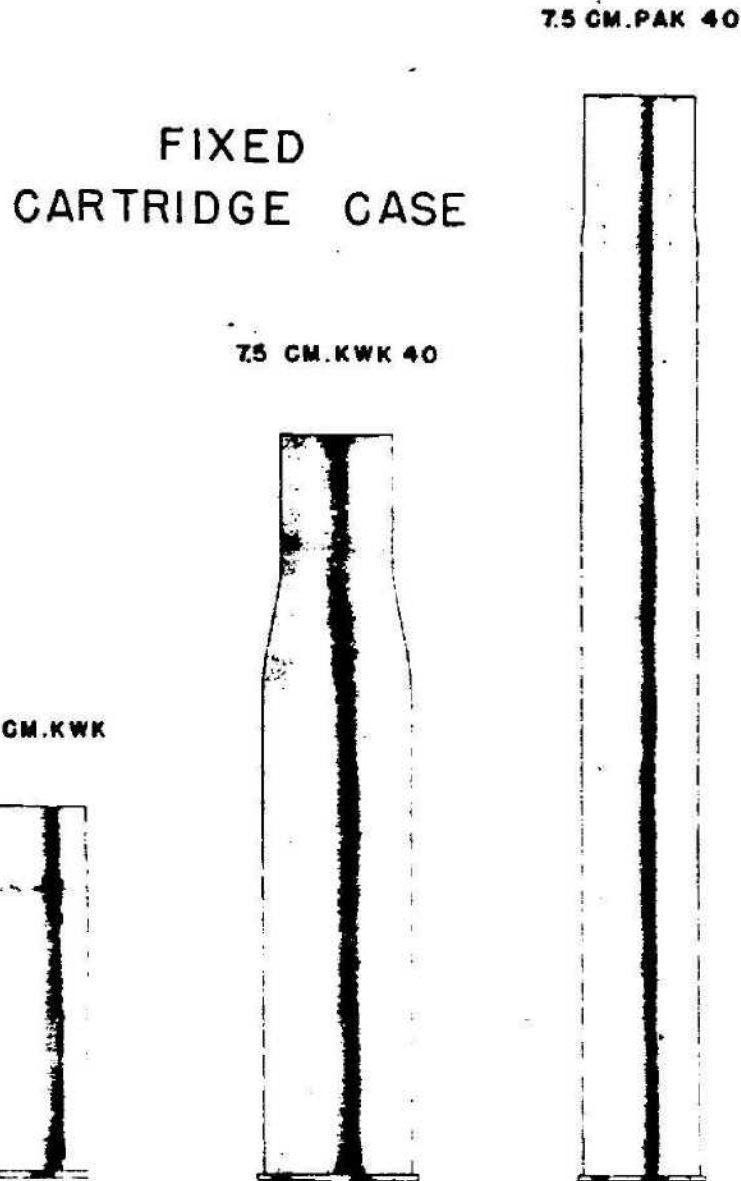

Figure 318—Fixed Cartridge Cases
**STENCILING ON SIDE OF CASE.** The following details are arranged in the sequence in which the markings are normally found between the approximate center of the case and flange at the base. (See fig. 318.)